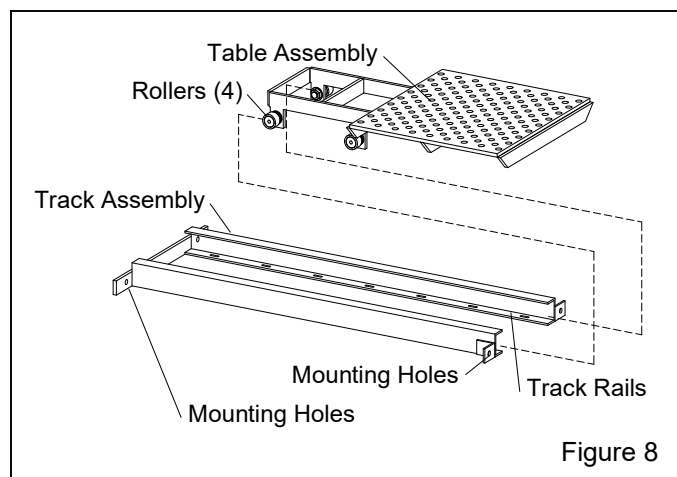

Figure 8
3.3.1 Components of track and table assembly are shown in Figure 8. The assembly consists of:
3.3.2 Combine the table assembly and track by sliding the table assembly rollers into the track channels, as shown in Figure 8.